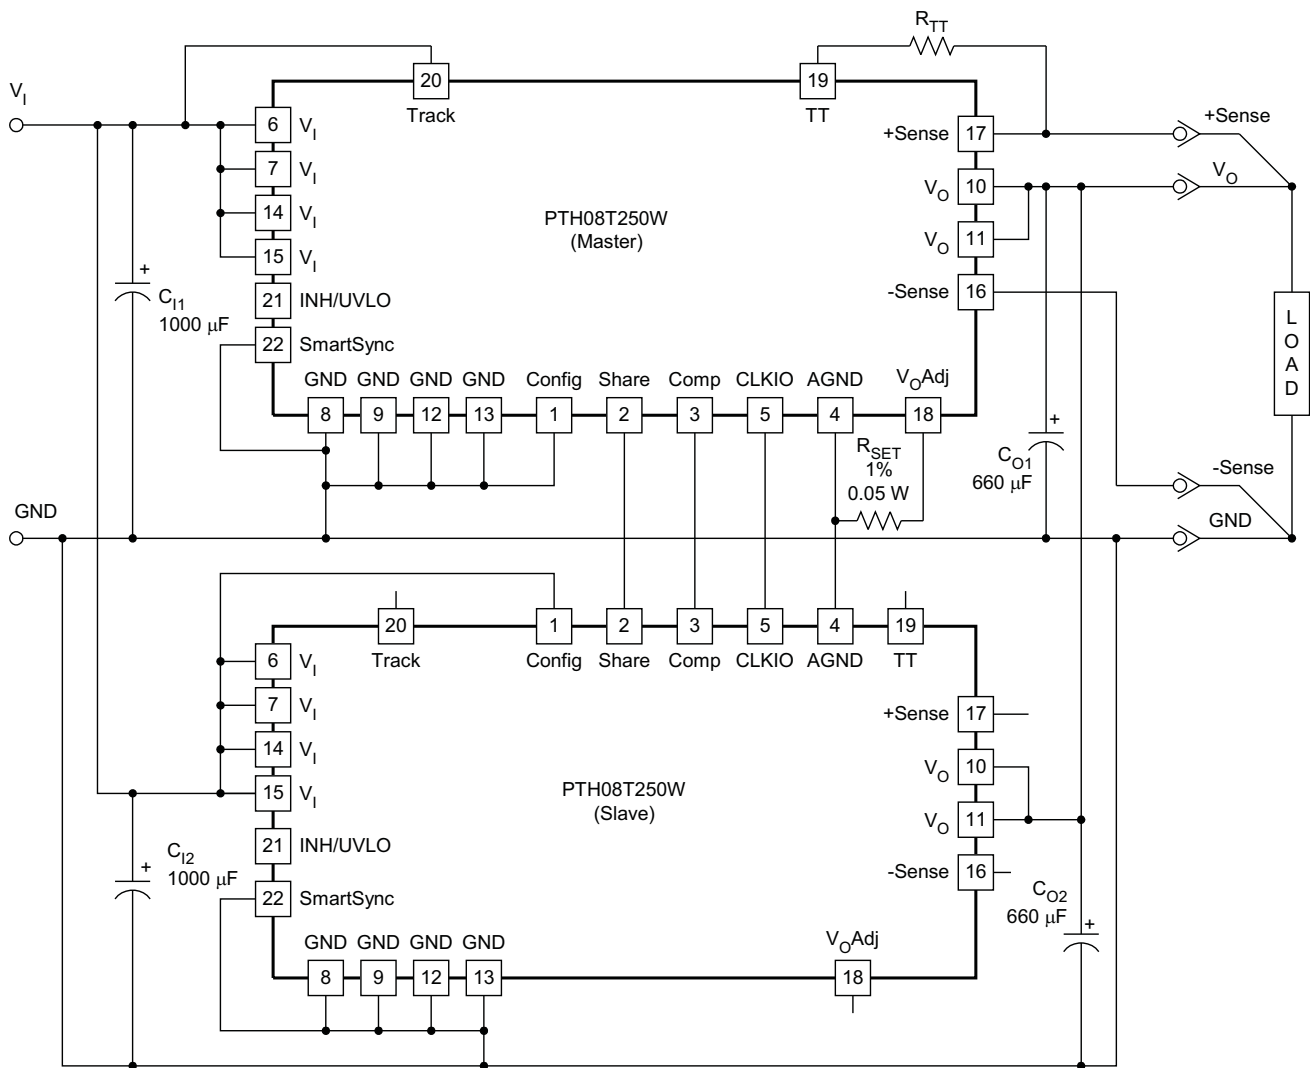
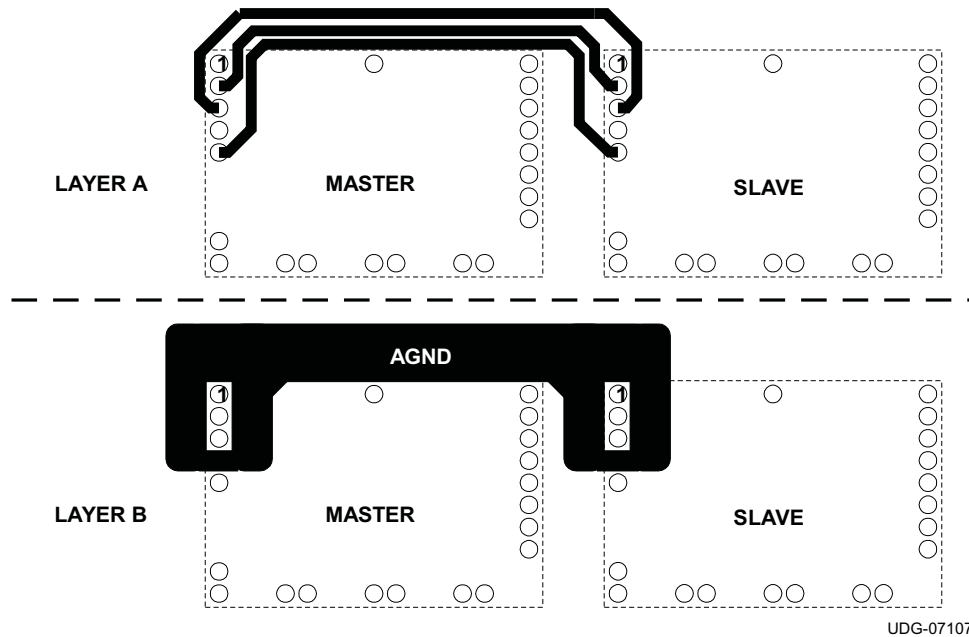

Figure 28. Typical Current Sharing Diagram
Figure 33. Recommended Layout of Inter-Connection Pins Between Two Current Sharing Modules
The PTH08T250W module is capable of being configured in parallel with another PTH08T250W module to share load current. To parallel the two modules, it is necessary to configure one module as the Master and one module as the Slave. To configure a module as the Master, connect the CONFIG pin (pin 1) to GND. The CONFIG pin of the Slave must be connected to V_I . In order to share current, pins 2 thru 5 of both the Master and Slave must be connected between the two modules. See Figure 33 for the recommended layout of pins 2 thru 5. The module that is configured as the MASTER is used to control all of the functions of the two modules including Inhibit ON/OFF control, AutoTrack sequencing, TurboTrans, SmartSync, +/- Remote Sense, and Output Voltage Adjust. See the current sharing diagram in Figure 28 for connections. The MASTER and the SLAVE must be powered from the same input voltage supply.
See Figure 28 and Table 7 for a diagram and connection description of each pin when two PTH08T250W modules are being used in a MASTER/SLAVE configuration.
(1) For more details on the pin descriptions, please refer to the 'Terminal Functions' described in
(2) See Layer A in Figure 33 for recommended layout
(3) See Layer B in Figure 33 for recommended layout
In current sharing applications the V_I pins of both modules must be connected to the same input bus. The V_O pins of both modules are connected together to power the load. The GND pins of both modules are connected via the GND plane. Four other inter-connection pins are connected between the modules. Figure 33 shows the required layout of the inter-connection pins for two modules configured to share current. Notice that the Share (pin 2) connection is routed between the Comp (pin 3) and CLKIO (pin 5) connections. AGND (pin 4) should be connected as a thicker trace on an adjacent layer, running parallel to pins 2, 3 and 5. AGND must not be connected to the GND plane.